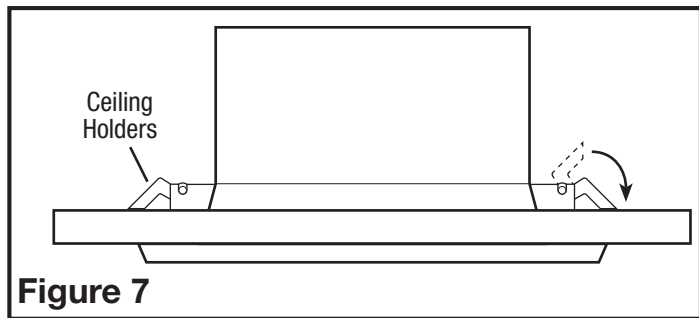

Figure 7
5. **6" Inline Kits:** Once the ducting has been connected to the room intake assembly, press the grill up into the previously cut hole until the spring loaded ceiling holders snap in place (Figure 7).